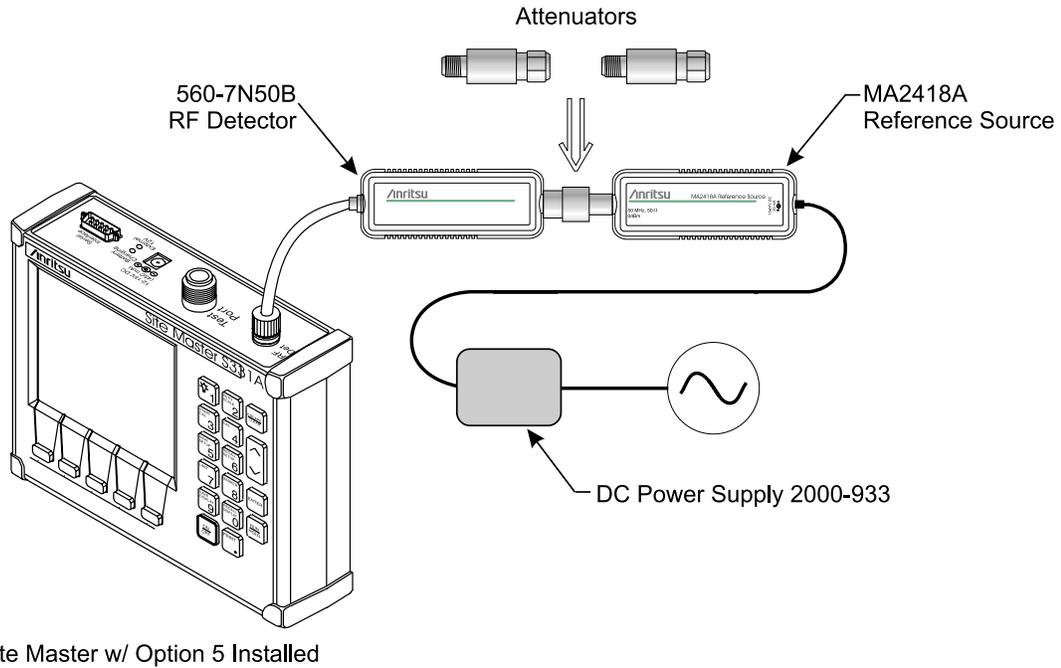

Figure 3. Power Monitor Verification Test Setup
1. Connect the DC Power Supply to the MA2418A Reference Source. (Refer to Figure 3 on the following page.)
10. Connect the two Attenuators to the output of the MA2418A Reference Source so as to add 40 dB of attenuation (Figure 3).